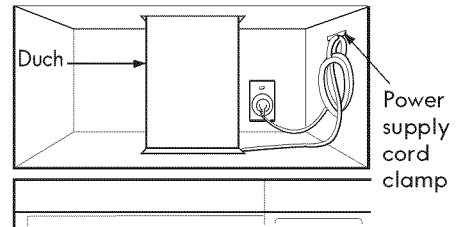

Figure 33
6. Use power supply cord clamp to bundle the power supply cord. Install the power supply cord clamp, using a screw as shown in **Figure 33**, to inside of the cabinet.